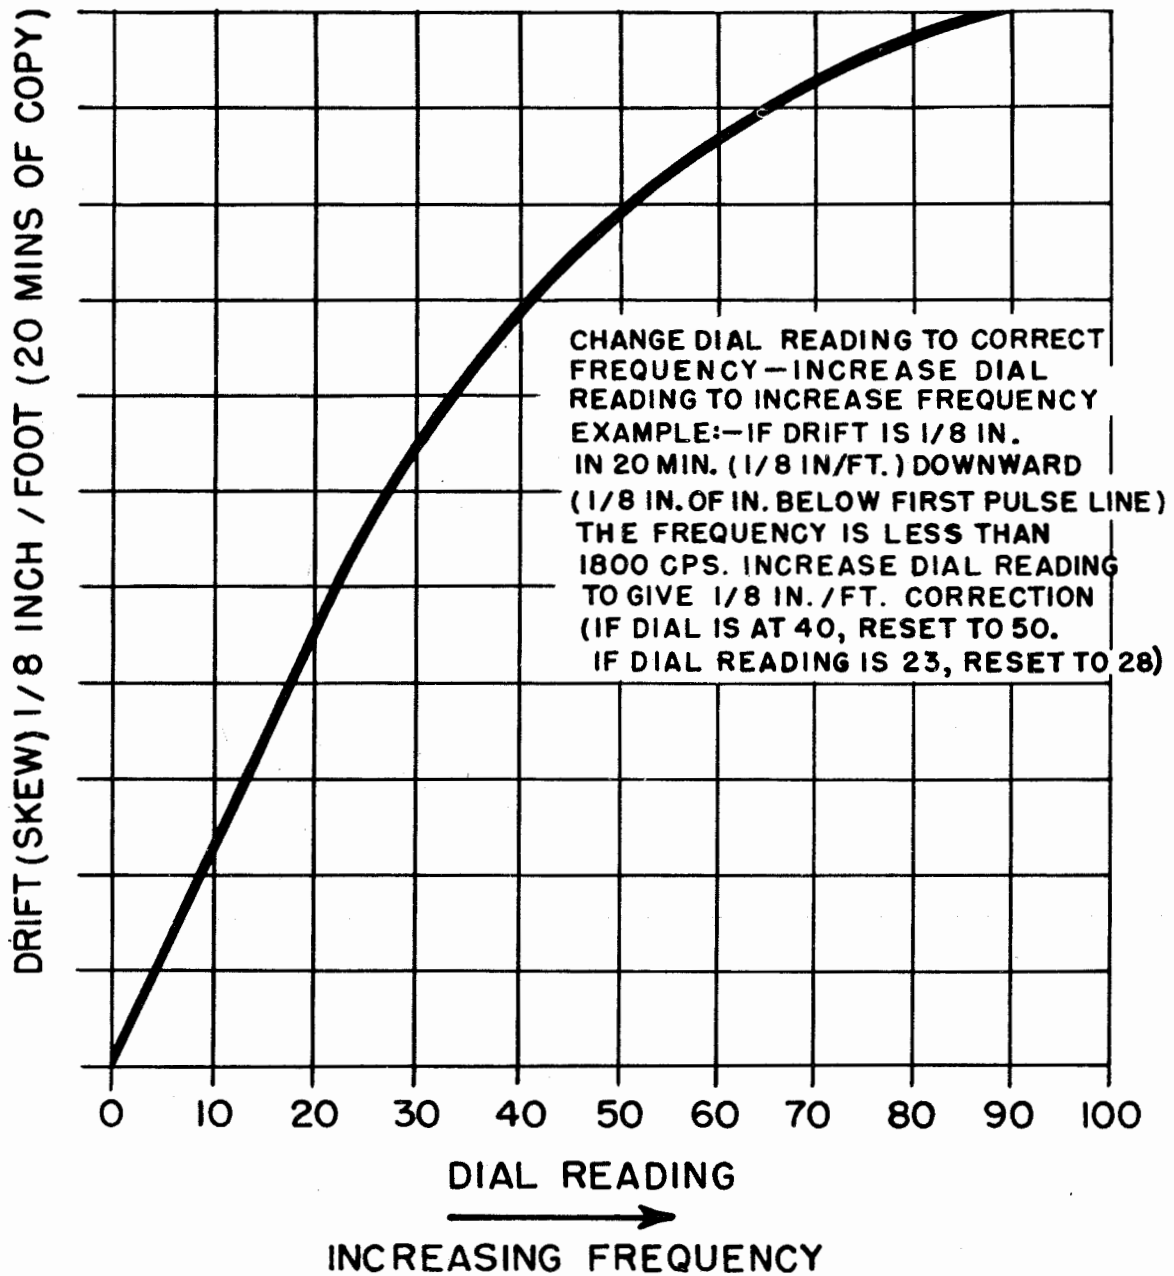

Figure 7-9. Fork Frequency Correction Chart.
3. If the displacement is more than one eighth of an inch, use the correction chart of figure 7-9 and make the required adjustment of the fork frequency control to obtain the corrected dial reading.